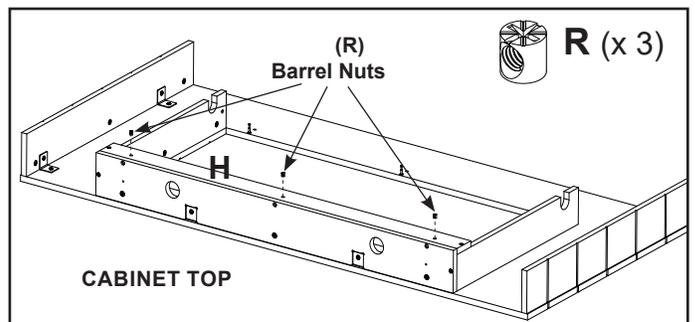

Figure 20
- Install three (3) Barrel Nuts (R) into part "H" with the arrows in the orientation shown on page 2 and Figure 20.